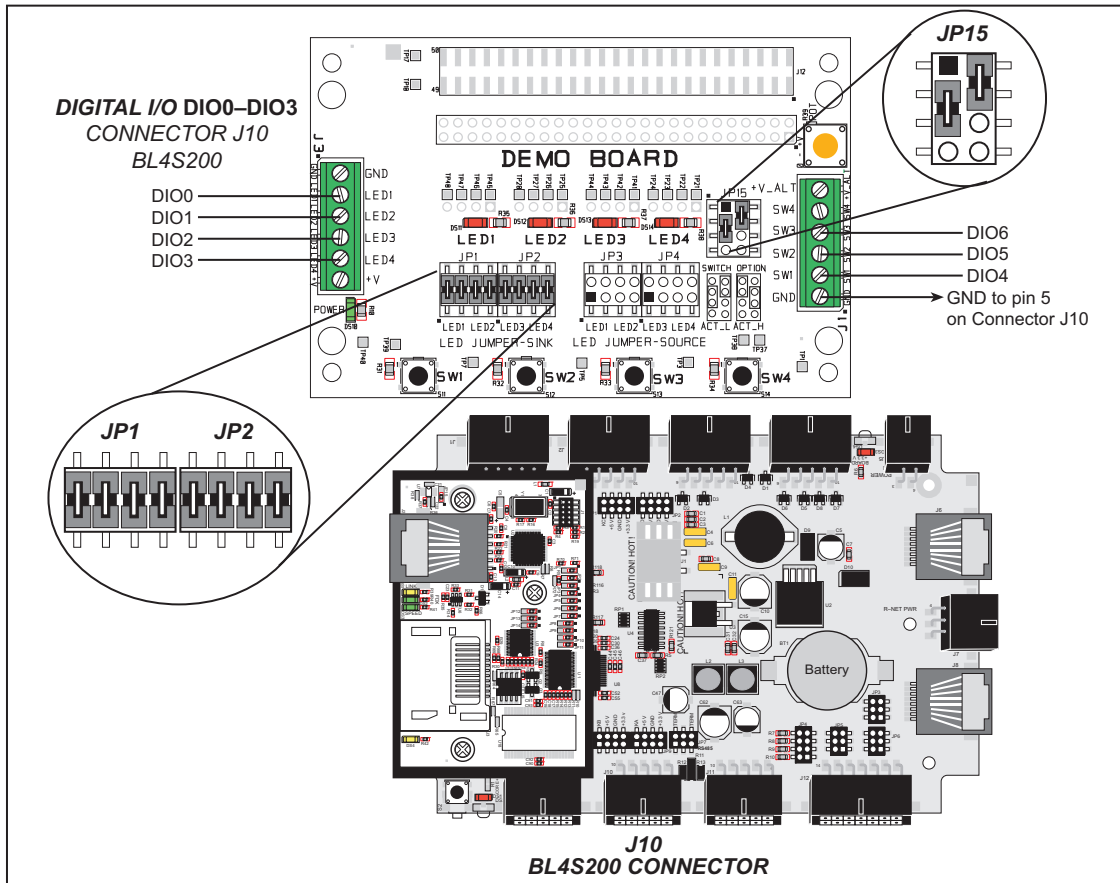

Figure 24. Quadrature Decoder Signal Connections
- **QUADRATURE_DECODER.C**—Demonstrates the use of quadrature decoders on the BL4S200. See Figure 24 for hookup instructions of configurable I/O pins DIO0–DIO6 on connector J10 with the Demonstration Board.